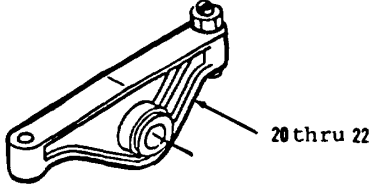

Figure 3-51.
- 13. Remove items 20 thru 22 as an assembly (Figure 3-51).